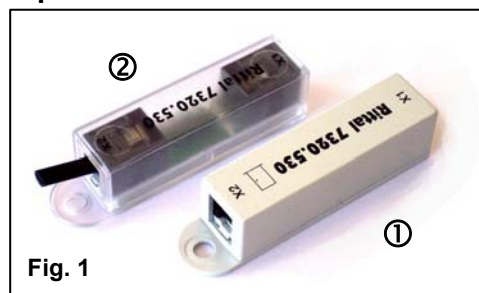
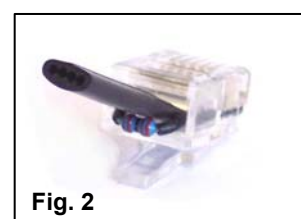

Fig. 1
Fig. 2
One input "door switch" (5) is designed for the model Rittal 7320.530 (see fig. 1). As termination an RJ12 connector with a resistor is provided (see fig. 2).
With door switches in old version (fig. 1, ①) to the 22k Ω terminating resistor a 22k Ω resistor is switched parallel at the output of the last switch, as
With door switches in new version (fig. 1, ②) a 1K Ω terminating resistor is plugged into the output X2 of the last switch. If all doors are closed, in normal operation only that 1K Ω terminating resistor is in the monitoring circle. With each door, that is opened, a 22k Ω resistor is switched parallel to this 1K Ω resistor.